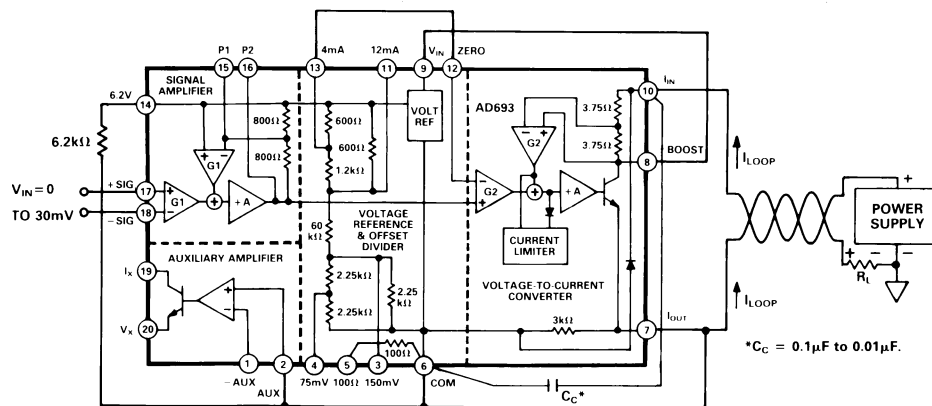

Figure 10. Minimal Connection for 0–30 mV Unipolar Input, 4–20 mA Output
- ⁶ The operational voltage (V_{OP}) is the voltage directly across the AD693 (Pin 10 to 6 in two-wire mode, Pin 9 to 6 in local power mode). For example, $V_{OP} = V_S - (I_{LOOP} \times R_L)$ in two-wire mode (refer to Figure 10).
Figure 10 shows the minimal connections for basic operation: 0–30 mV input span, 4–20 mA output span in the two-wire, loop-powered mode. If not used for external excitation, the 6.2 V reference should be loaded by approximately 1 mA (6.2 k Ω to common).